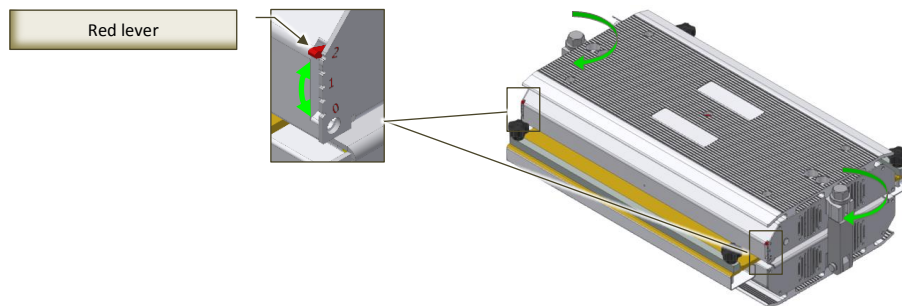

Fig. 8-7 - Applying the necessary pressure to the product to be joined
- Alternately tighten the locking nuts (Fig. 8-7) using the supplied ratchet wrench until the pressure required to join the product is reached. The pressure applied to the product is indicated by the position of the red levers. To know the optimal pressure for the repair of the product, refer to the technical data sheet of the product itself.